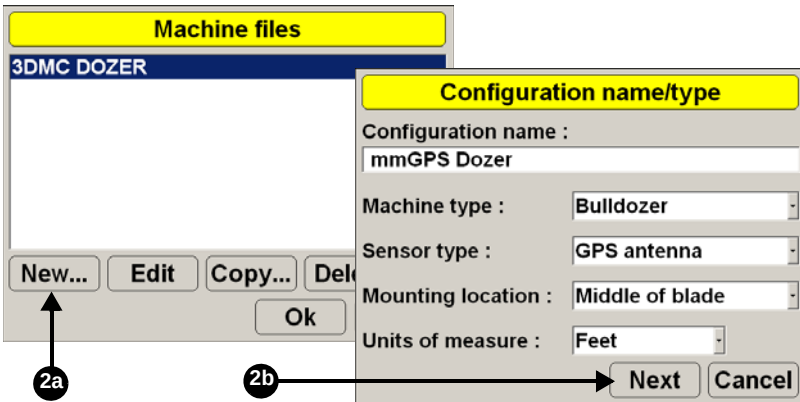

Figure 3-9. Enter Sensor Information
2. Press **New** and enter or select the following information (Figure 3-9). Then press **Next**.